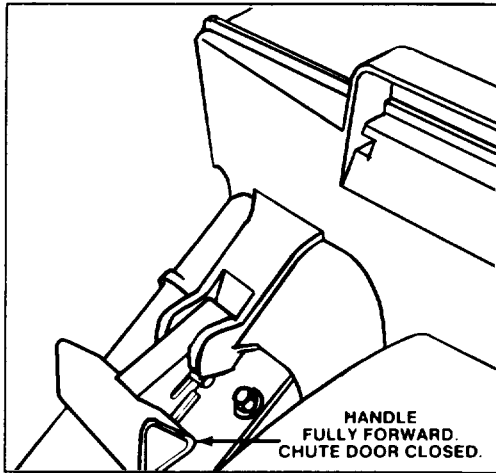

Figure 12
2. Ensure chute door handle is fully forward and pin is engaged in catch (Fig. 12).
5. **EMPTYING BAG**—Stop engine and wait for all moving parts to stop. Move chute door handle forward to engage the locking pin with catch (Fig. 12). Grasp bag handle and rear of bag and lift bag off mower. Gradually tip bag forward to empty clippings.